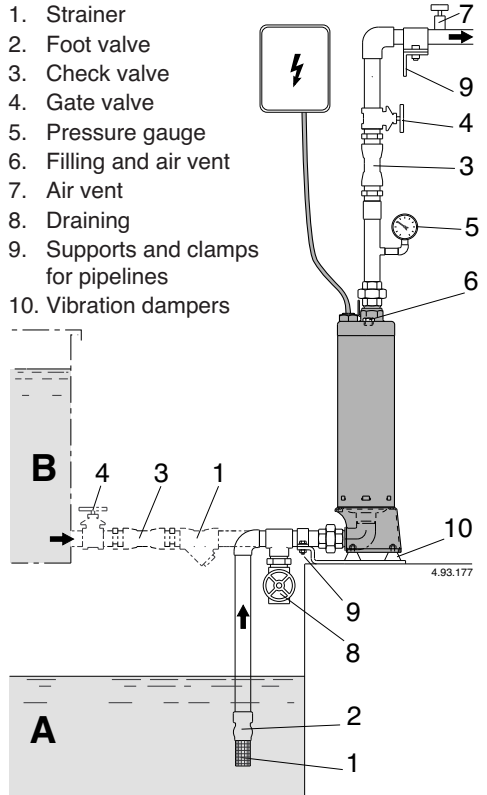

Fig. 1 Systems diagram
The pump must be installed in the vertical position with the delivery connection facing upwards. See installation examples, fig. 1.
When the pump is located above the water level (suction lift operation, fig. 1A) or with a positive suction head which is too low (less than 1 m) to open the non-return valve, fill the suction pipe and the pump through the priming hole (ref. 6, fig. 1).
When the liquid level on the suction side is above the pump (inflow under positive suction head, fig. 1B), fill the pump by opening the suction gate valve slowly and completely, keeping the delivery gate valve and the air vent (ref. 6, fig. 1) open to release the air. Close the plug when the water reaches the air vent hole.